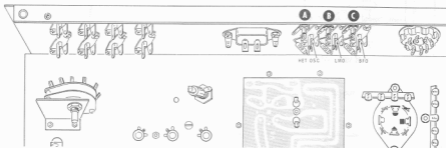

Figure 3-12
- ( ) On the inside of the rear panel, refer to Figure 3-12 and connect a 100  $\Omega$  (brown-black-brown) resistor from the center lug of the HET OSC socket (S-1) to the center lug of socket A (S-1).